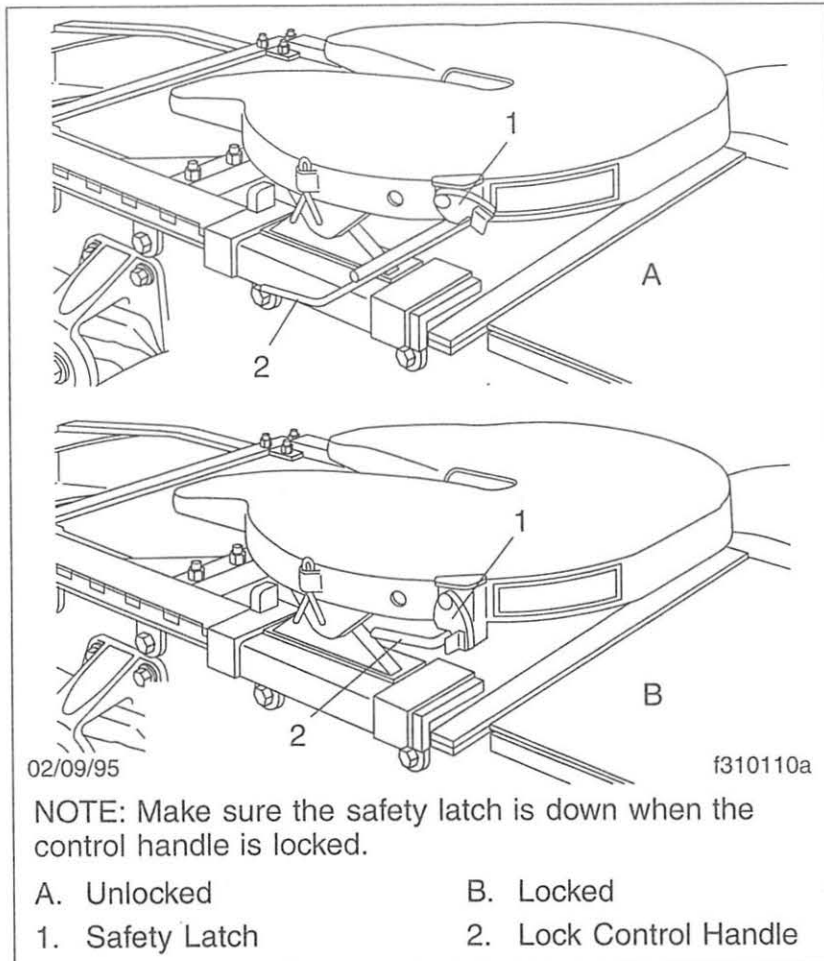

Fig. 10.17, Fontaine Fifth Wheel, Locking and Unlocking
6. Make a visual and physical check for positive kingpin lockup. When lockup has occurred, the fifth wheel control handle will have moved to the locked position. Make sure that the safety latch is down over the lock control handle. See **Fig. 10.17**. This will hold the control handle in the locked position.
6. Release the kingpin locking mechanism by lifting the safety latch and pulling the lock control handle to the unlocked position. See **Fig. 10.17**.